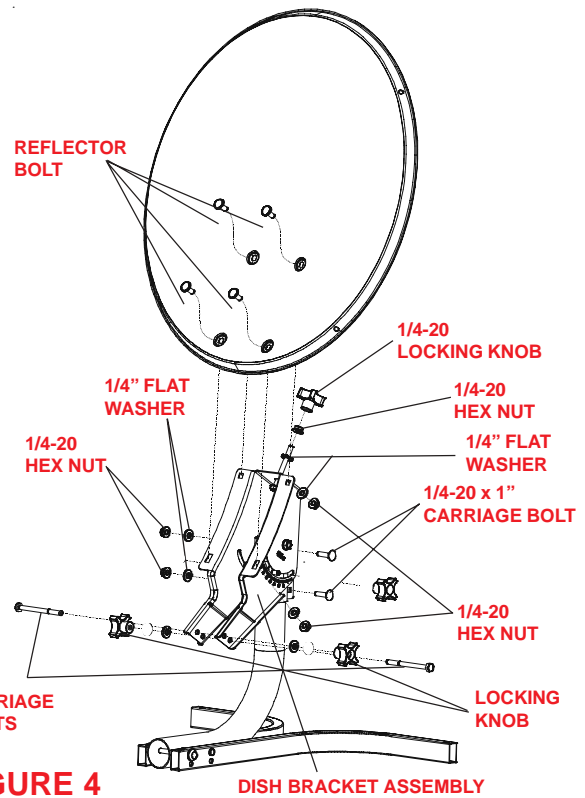

FIGURE 4
STEP 4. Line up long bolt inside dish bracket assembly (Figure 4) with the slots on top of the mount pipe.
STEP 8. Attach reflector using (4) reflector bolts, (4) 1/4" flat washers, (4) 1/4-20 hex nuts. See Figure 4.